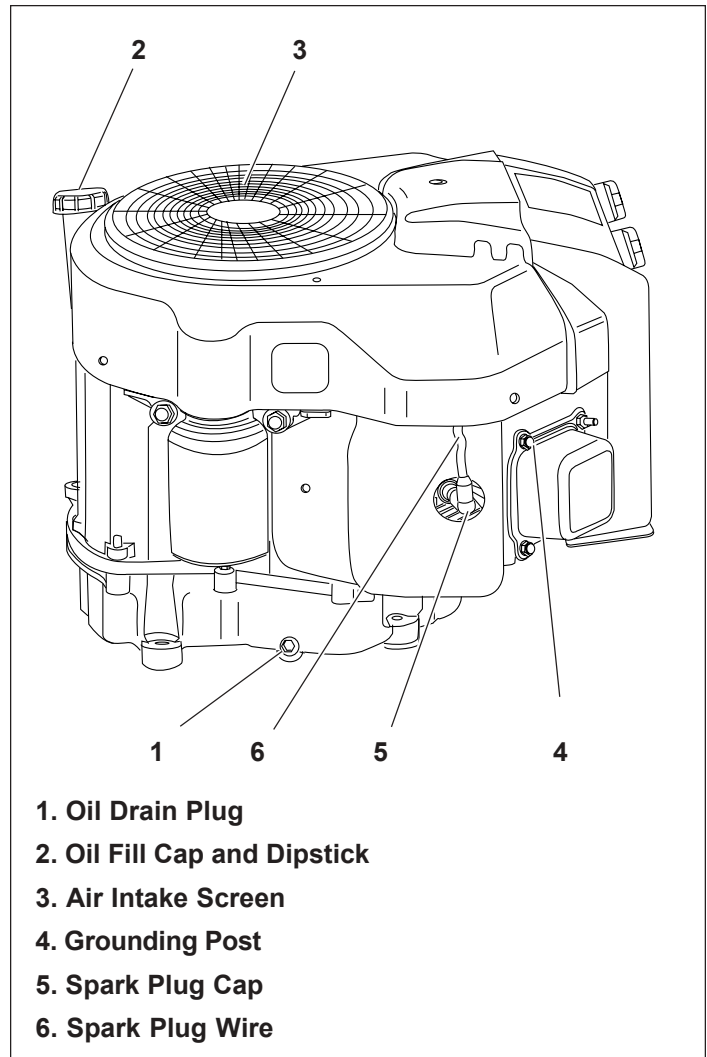

Figure 2. Engine With Oil Fill Dipstick
2. Unscrew oil fill cap from oil filler tube and wipe dipstick clean. See Figure 2.